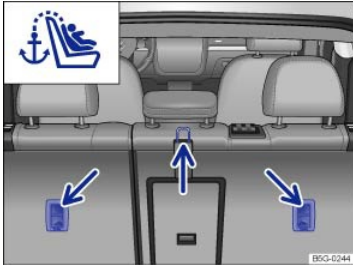

Fig. 49 Anchorages for the top tether strap on the back of the rear seat.
- Locate the tether anchor behind the rear seat backrest ⇒ Fig. 49.
- Attach the tether strap anchorage hook into the opening of the tether anchorage ⇒ Fig. 49.